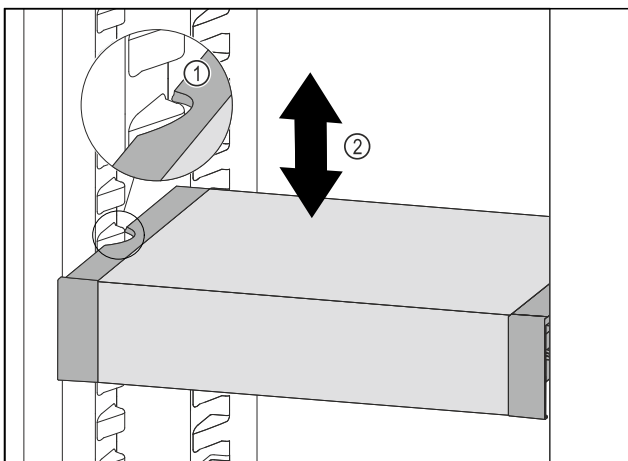

Fig. 98
- ▶ Pull VarioSafe forwards until the recesses in the side of the VarioSafe are at the level of the support rib in the refrigerator compartment. *Fig. 98 (1)*
- ▶ Move VarioSafe up or down in the refrigerator compartment until the desired height is reached. *Fig. 98 (2)*